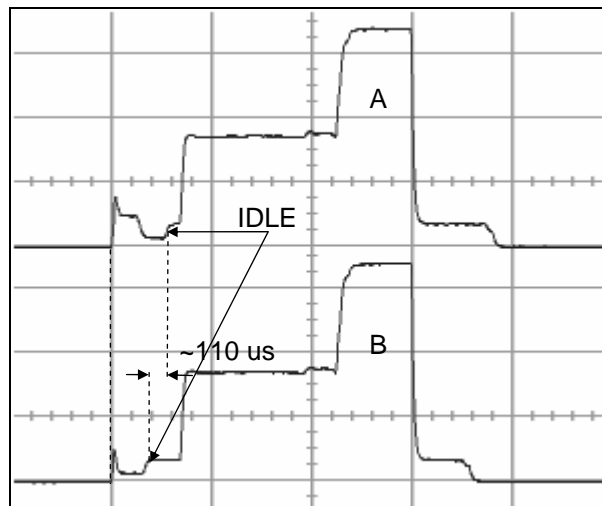

Figure 9. MCSM0.XOSC_FORCE_ON = 1
It is possible to keep the crystal on during SLEEP mode (`MCSM0.XOSC_FORCE_ON = 1`) to be able to reduce t_{Event1} , but this will cause the current consumption in SLEEP mode to increase significantly (see [1], [2], [3], and [4]). Figure 9 shows the current consumption when the crystal is turned off in SLEEP mode (A) and when the crystal is kept on (B). It is not possible to observe the difference in SLEEP current due to the resolution of the y-axis, but in the case where the crystal is running, one can see that the chip is ready and in IDLE mode about 110 μ s earlier than what is the case if the crystal oscillator has been turned off. In the case where the crystal oscillator is running in SLEEP mode, it can be seen that the radio returns to SLEEP earlier than what is the case when XOSC is turned off. This is due to the fact that the calibration of the RC oscillator (see 3.2.3) starts earlier and thus finishes of sooner.